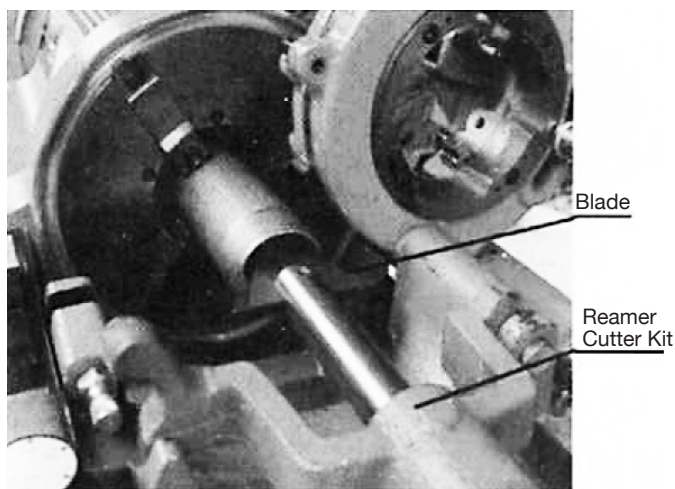

Fig. 9
- b Start the machine. Move the gearshift handle to the top gear. Rotate the sledge handle wheel and drive the reamer cutter kit to the inside of the pipe (see Fig. 9).